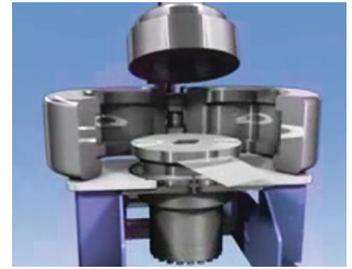

Figure 5: Place form block in hydroforming press (punch shown.)
- Place form block and sheet metal blank in chamber (Figure 5).
Figures 5 through 9 – Images courtesy of Pryer Technology Group (www.pryerotechgroup.com)